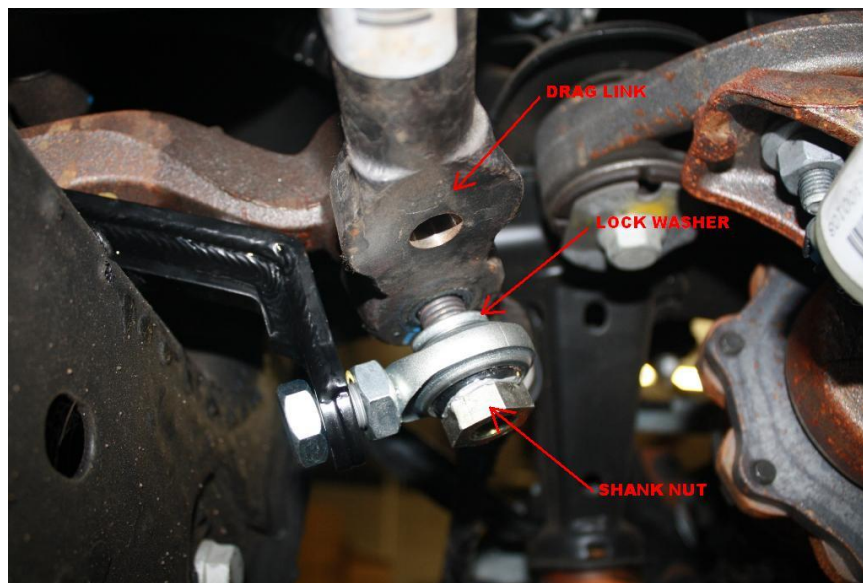

Figure 10: assembly
11. Insert one lock washer over each of the drag link studs, and then install the pitman and idler arm brackets on to the pivot ends, at the same time place the rod end which is connected to the Cognito Motorsports brackets over the drag link studs so that the lock washer is in between the Cognito rod end and the drag link as shown in figure 10. Apply a small amount of thread locker on the threads of the shank nuts and insert a shank nut on to each of the drag link studs, passing through the rod ends and locking against the lock washer and drag link as shown in Figure 10. future torque on the shank nuts is 70 ft/lb.